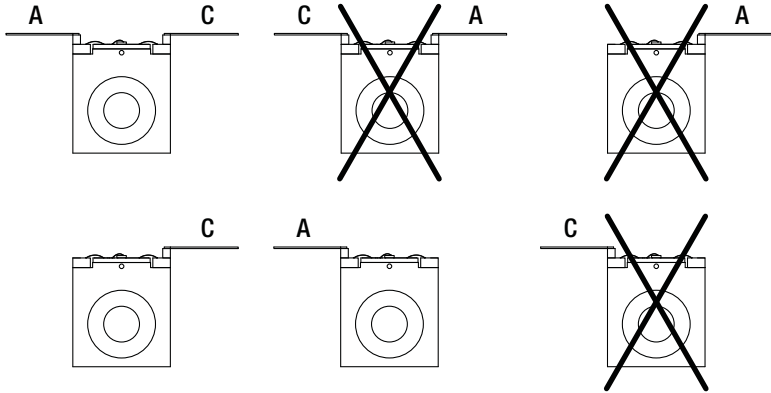

Figure 1 Supported C-mount Devices
3. To drive C-mount devices through the LDMC20, the ITC Controller must be set to “Cathode to Ground” configuration. Refer to Figure 1, page 5 to determine which C-mount devices can be used with the LDMC20.